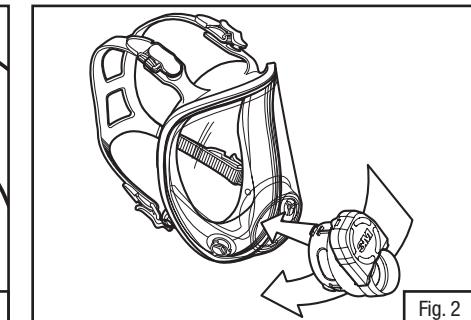

Fig. 2
2. Slide adapter into lens port (Fig. 2).
4. Re-install center adapter into facepiece lens (Fig. 2).